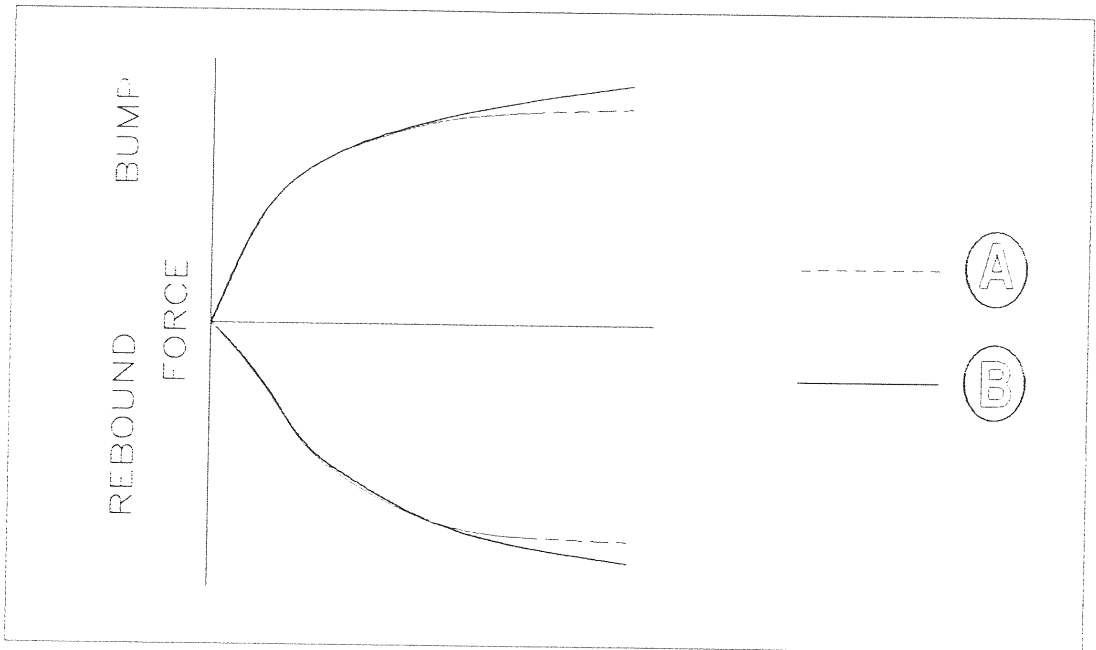

Fig. 21
Shims bend off the main piston very little at high velocities. As the velocities reach over 200 mm/sec the piston port area becomes more critical. Worn ports (A) tend to show a drop in high speed damping compared to (B) as shown in fig.21.